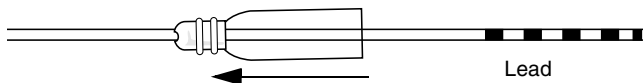

Figure 8. Push boot over lead.
6. Push the boot(s) over the lead(s) (Figure 8).